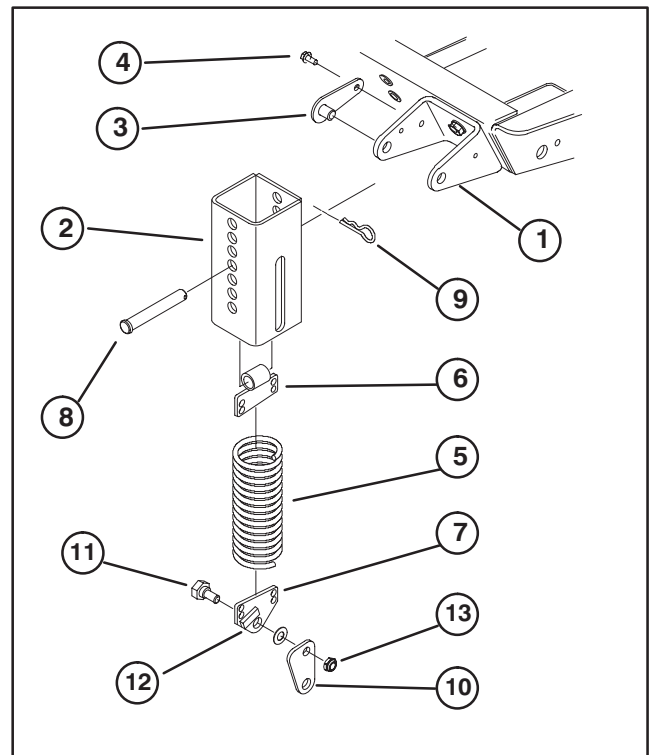

Figure 9
4. Thread the top extension spring coil into the top spring end holes and the bottom extension spring coil into the bottom spring end holes (Fig. 9).
5. Mount knee link to lower spring end with wide part of knee link pointing forward and spring end stop pointing forward. Secure knee link to outer side of spring end with a shoulder bolt, washer and locknut (Fig. 9, 10).
7. Align slotted holes in the spring cover (slot toward the bottom) with the mounting bracket holes. Insert lock pin assemblies into the bracket holes and secure each to the bracket with self-tapping screws (Fig. 9). Torque the screws to 20 ft-lb.
8. From the bottom, insert the spring and top spring end into the spring cover. Select a hole that matches the cutter deck height—of—cut setting; i.e., top cover hole matches the highest height setting, bottom cover hole the lowest, etc. Align the top spring end hole with the selected spring cover holes and insert the clevis pin to secure the spring inside the cover (Fig. 9). Secure clevis pin with a hair pin cotter.